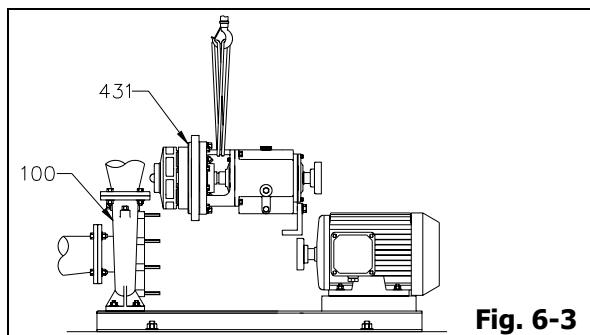

Fig. 6-3
- Jack out the back pull-out assembly from casing (100). Make sure stuffing box cover gasket (431) is not damaged (Fig. 6-3).